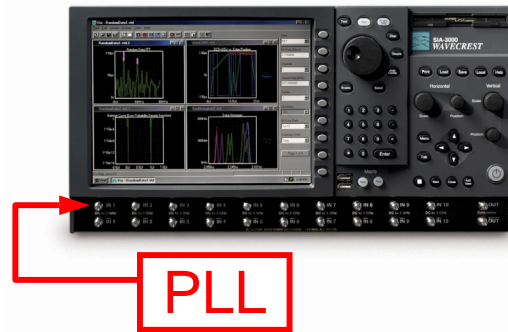

Fig. 1 SIA with signal source.
As an example, we perform Advanced PLL measurements on a PLL clock output. The experimental set up is shown in Fig. 1. For this example, the PLL is has a reference clock of 10 MHz and an output clock of 1.2525 GHz.
2. Connect the signal to a measurement channel (Fig. 1). Set the measurement channel in by going to the **Acquire Option** menu and choosing **Channel**.